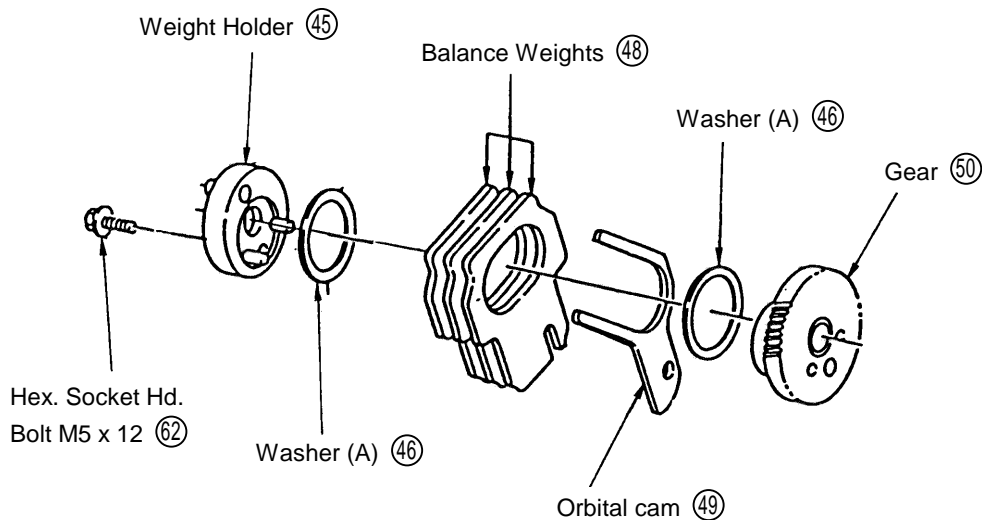

Fig. 14
- (7) Disassembly of the Weight Holder (45) and the Gear (50):
Remove the M5 x 12 Hex. Socket Hd. Bolt (62) from the Weight Holder (45). Washer (A) (46), the three Balance Weights (48), the Orbital Cam (49), and Washer (A) (46) can then be removed in that order. (See Fig. 14)